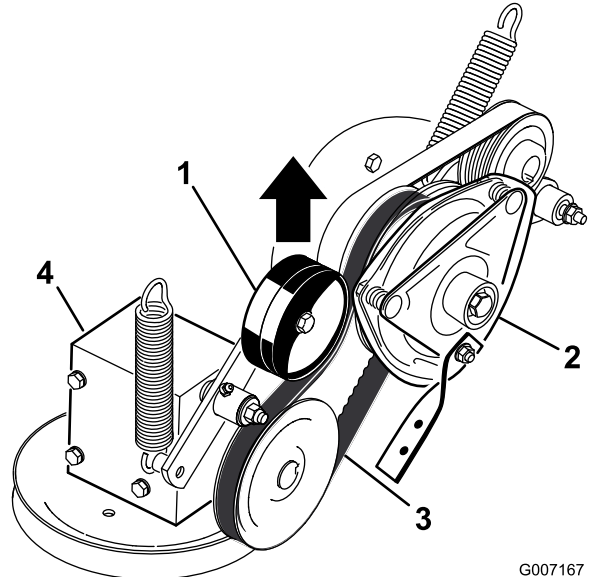

Figure 75
5. Pull up on the spring-loaded idler pulley for the PTO-drive belt and remove the belt from the clutch pulley (Figure 75).
17. Pull up on the spring-loaded idler for the PTO-drive belt and install it onto the clutch pulley (Figure 75).